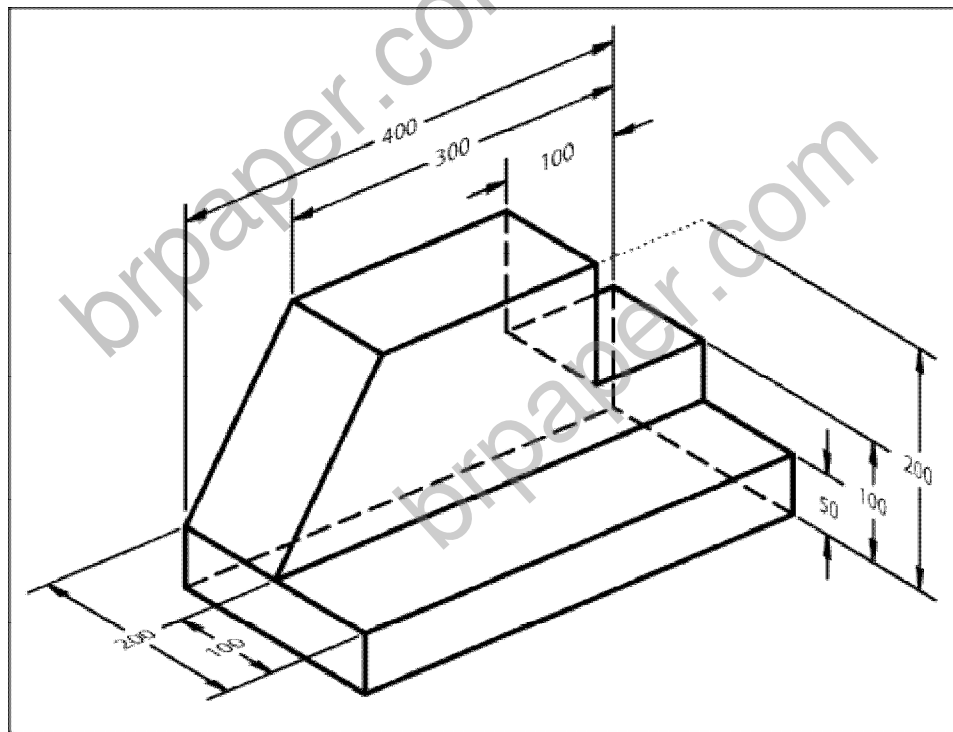

Figure 1
- Figure 1** shows pictorial view of an object. Draw front, side and top views in full scale in first angle projections.
Q2. Figure 1 shows pictorial view of an object. Draw front, side and top views in full scale in first angle projections.